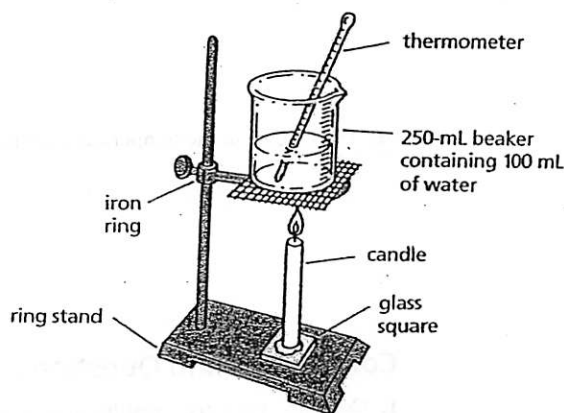

Figure 2-1
2. Measure exactly 100 mL of tap water in a graduated cylinder. Pour the water into a 250-mL beaker and place the beaker on wire gauze as shown in Figure 2-1. Measure the temperature of the water.